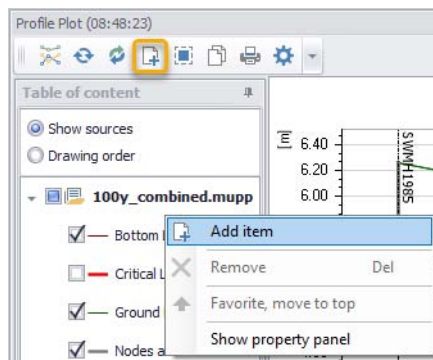

Figure 20.34 The 'Add item' tool on the Profile Plot window
- Add simulation results to a profile plot using the 'Add item' button on the Profile Plot window (Figure 20.34.). The option is also offered from the local context menu (i.e. right-click) on the left panel of the profile plot form.